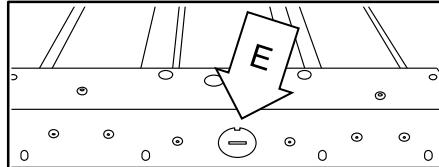

Fig. 3
4. If the fixture needs to be dimmed, connect it to a 0-10V dimmer. Punch out one of the **knockouts** (E) located around the side of the fixture and pull the **dimming wires** out through that **knockout** (E). [Fig. 3]